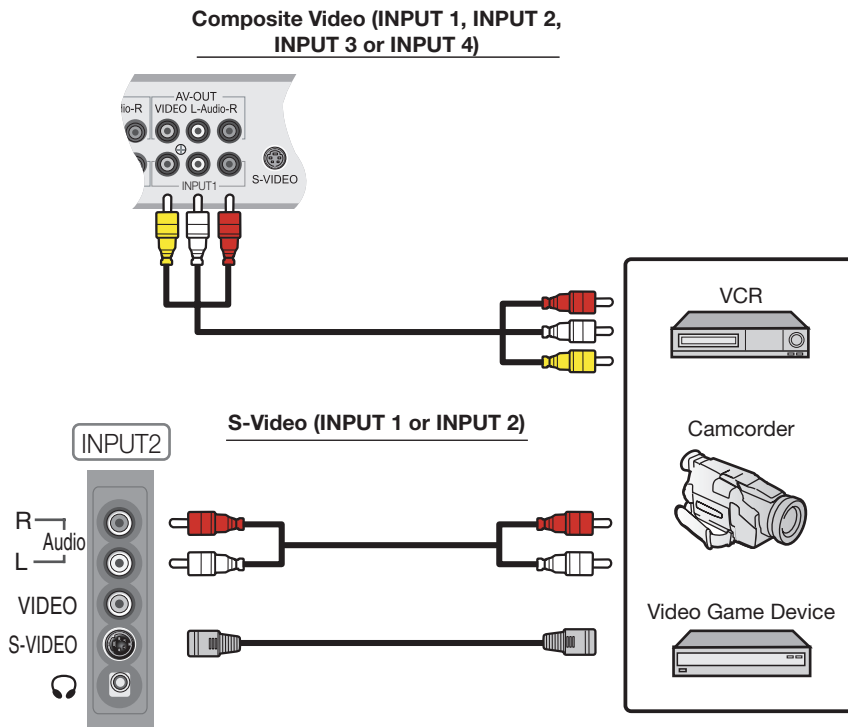

Figure 3-4. Composite and S-Video Connections
Composite/S-Video Connections: The PD520 has two (2) S-Video and four (4) composite video inputs for connecting a VCR, camcorder, laser disc player or DVD player; see Figure 3-4.